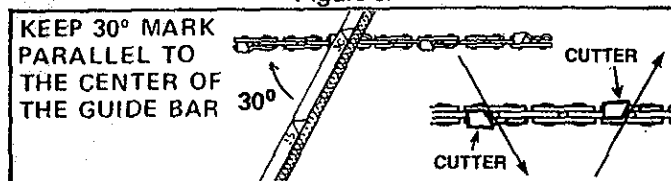

Figure 33
- b.) Hold the file holder level with the 30° guide mark parallel to the center of the chain. Figure 33.
- c.) File from inside toward outside of cutter, straight across, on forward stroke only. Use 2 or 3 strokes per cutting edge. Figure 33.